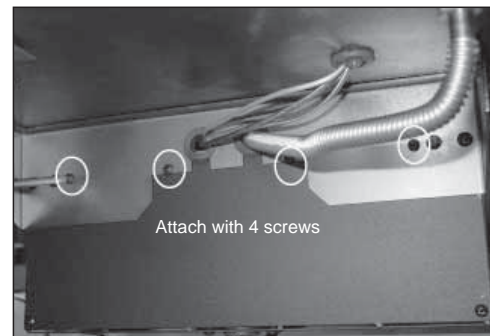

Figure 9
2. Place the blower under the appliance. Attach the blower from the front with four screws to the blower bracket. **Figure 9.**